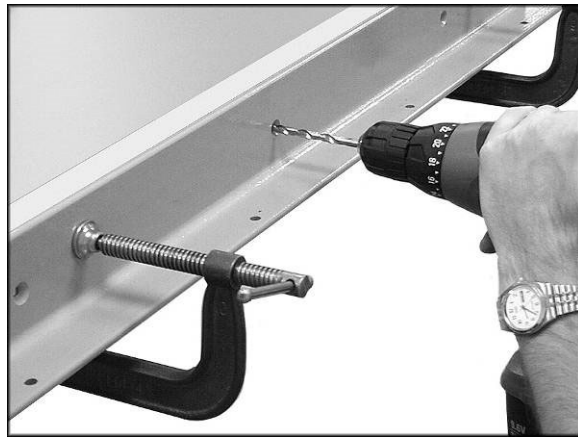

Figure 8
4. Place wood extension table between rails and up against saw table, leaving the extension table raised just slightly above saw table. Clamp extension table to front and back rails, as shown in Figure 8. Clamping pressure should be enough to secure table yet allow minor adjustments.
6. When the wood extension table is properly aligned, drill holes into wood table using the holes in the rails as guide. See Figure 8.